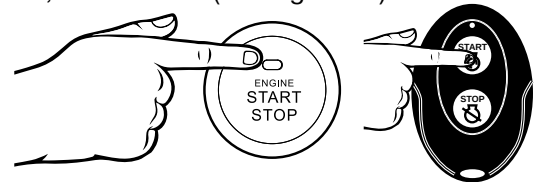

Figure 10 - Push Button Start/Remote Start
7. Push and hold the push button start for 1 second, then release. If using remote start then hold down **START** on the remote key fob until the generator starts, then release (see Figure 10).